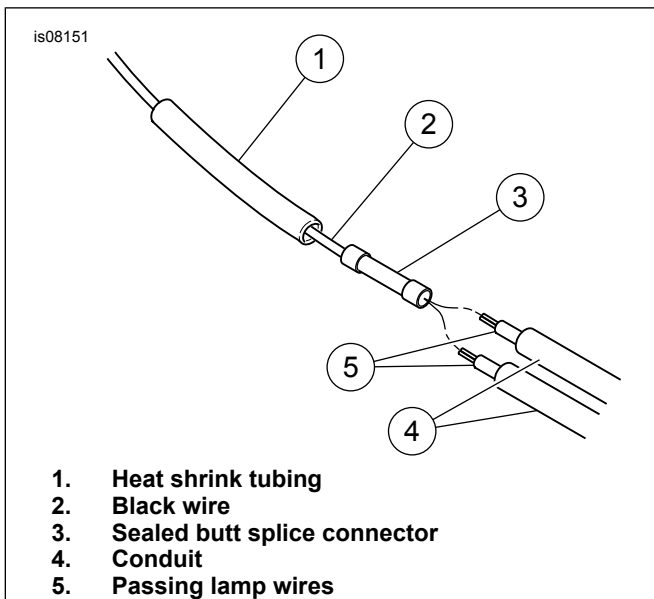

Figure 7. Connect Passing Lamp Wiring
17. See Figure 7. Bring both passing lamp wires to the connector. Trim the wires, allowing approximately 1 in (25.4 mm) of wire to extend past the butt splice connector. Trim the conduit approximately 1-1/2 in (38.1 mm) back from the end of the wire.
22. Refer to Figure 7. Bring both passing lamp wires to the connector. Trim the wires, allowing approximately 1 inch (25.4 mm) of wire to extend past the sealed butt connector. Trim the conduit approximately 1-1/2 in. (38.1 mm) back from the end of the wire.